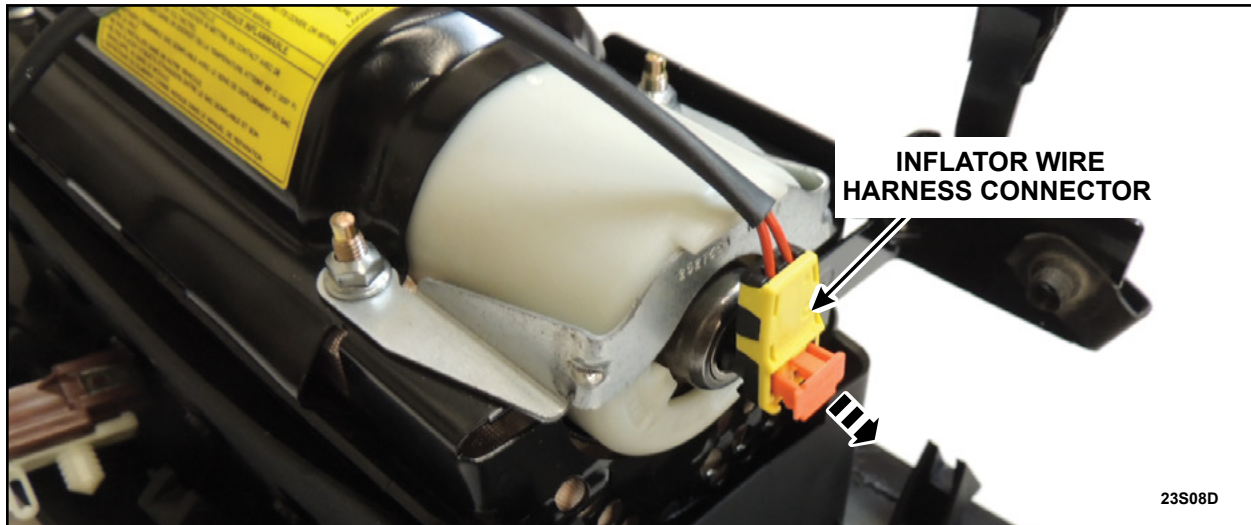

FIGURE 3
4. Disengage the orange tab and disconnect the wiring harness electrical connector. See Figure 3.
**NOTE:** Depending on how the inflator was previously installed, it is possible for the connector end of the inflator to be on either side of the airbag module. Figure 3 illustrates the connector on the inboard side of the module, but the process is the same if the connector end is on the outboard side of the module.